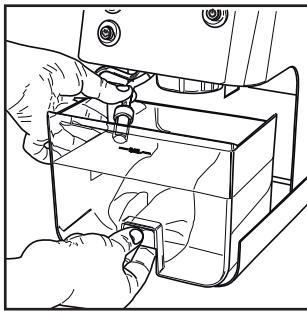
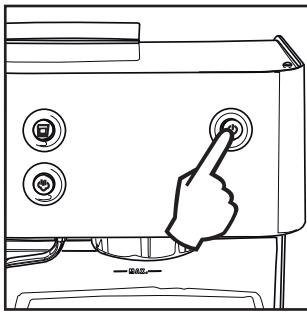
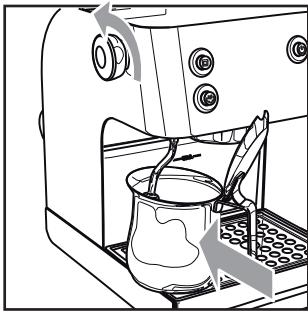

Fig.4
Fig.7
Fig.8
- (Fig.7) - Turn on the machine by pressing the ON/OFF button (18).
- (Fig.8) - Place a container below the steam spout.
- Open the knob (5) to remove, at intervals and one cup at a time, the whole descaling product. Close the knob (5) to stop the dispensing.
- (Fig.7) - During each interval allow the descaling solution to take effect for about 10-15 minutes, disconnecting the ON/OFF button (18). Empty the container.
- (Fig.4; Fig.8) - Reinsert the tank in the machine. Open the knob (5) to empty 2/3 of the water. Close the steam knob (5) clockwise to stop dispensing.